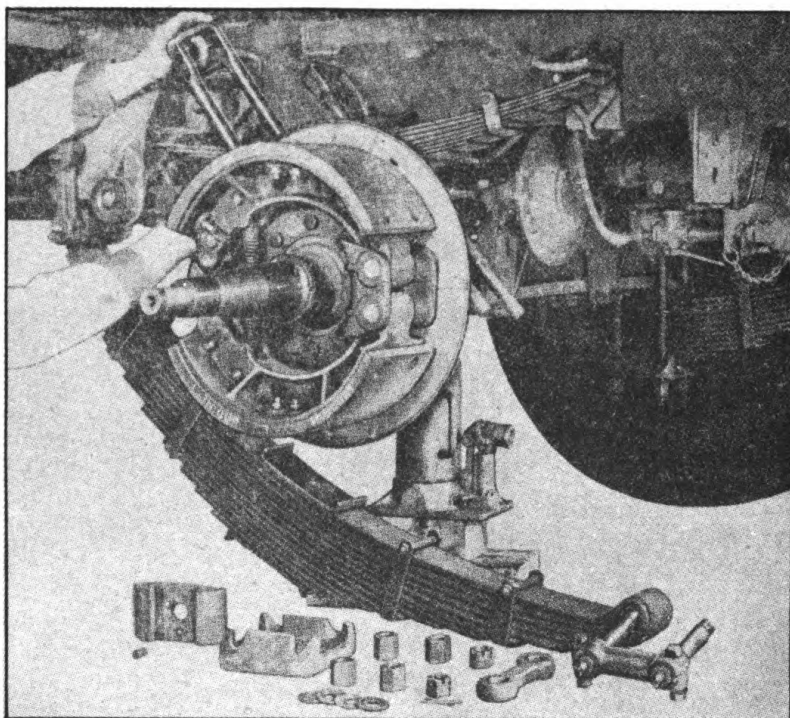

FIGURE 10. AXLE REPLACEMENT.
5. AXLE REPLACEMENT (Figure 10).—a. Hoist up the trailer at the front of the gear frame and remove wheel and hub assemblies.